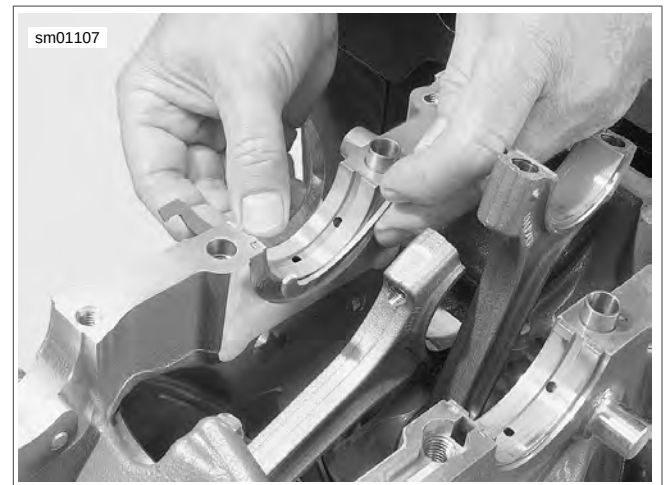

Figure 3-103. Remove Main Bearing Retainers
8. See Figure 3-103. Remove crankshaft thrust bearings.